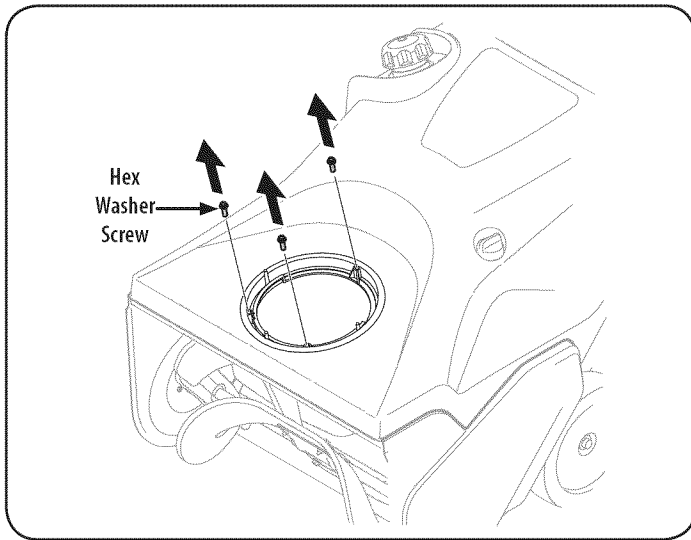

Figure 4
1. Remove the hex washer screws in the chute base. See Figure 4.